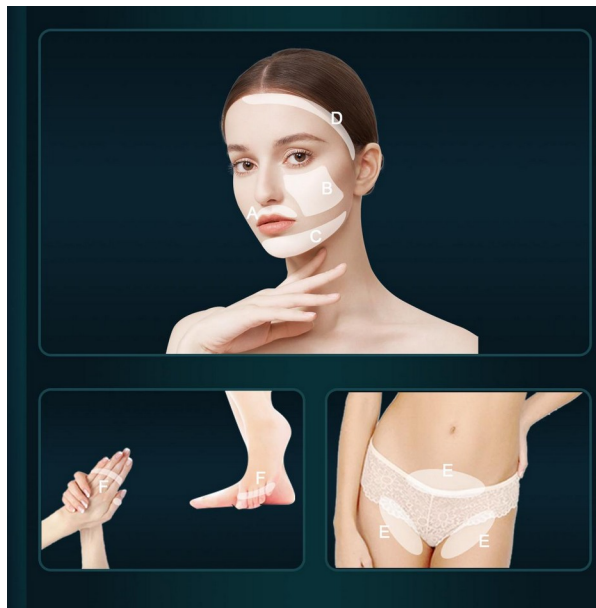
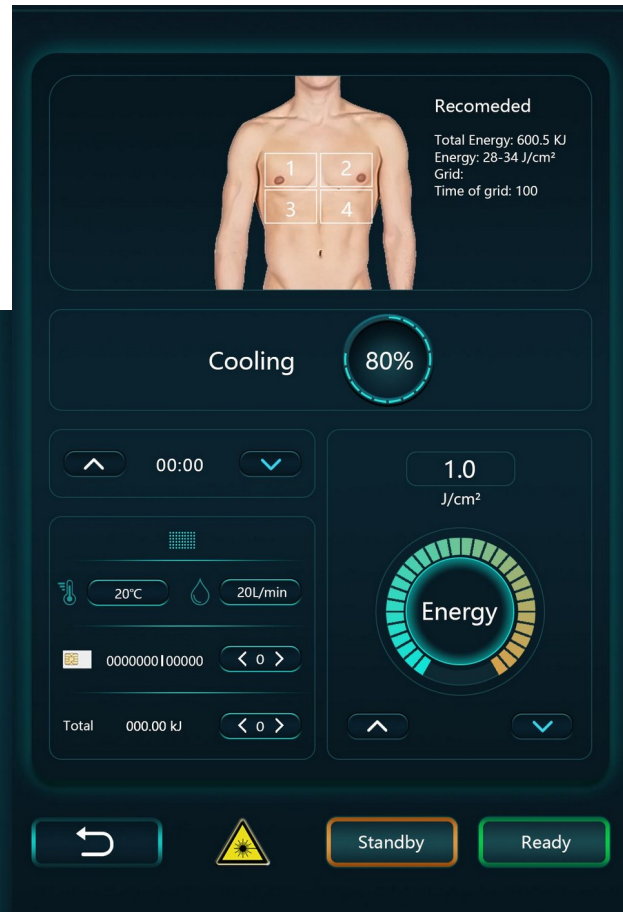

Figure 5.27
Figure 5.28
- 4) In Stack Mode, you can choose the treatment area: A, B, C, D, E, or F (Figure 5.27). You are only allowed to adjust the energy and cooling levels. Once you press "Ready," the system will stop blinking the "Recommended" icon (see Figure 5.28).